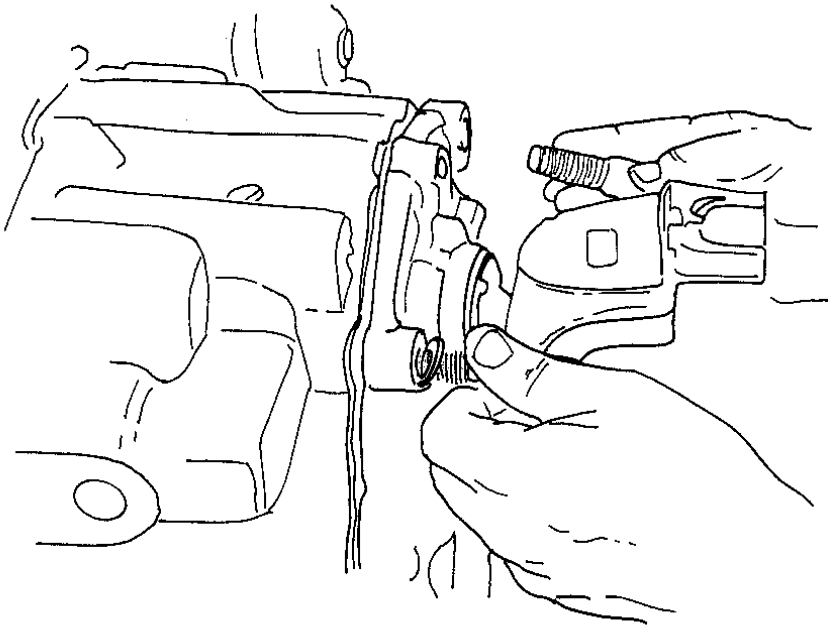

Figure 17 Install Input Shaft Assembly
30. When the input shaft assembly is seated in the transfer case, install three (3) bolts, equally spaced, to attach the input shaft cage to the transfer case (Figure 17). Tighten to 85 to 115 lbf-ft (115 to 156 Nm). **Do not use an impact wrench.**
34. **A.**Install remaining mounting bolts into the input shaft bearing cage (Figure 17). Tighten to 85 to 115 Lbf-ft (115 to 156 Nm).